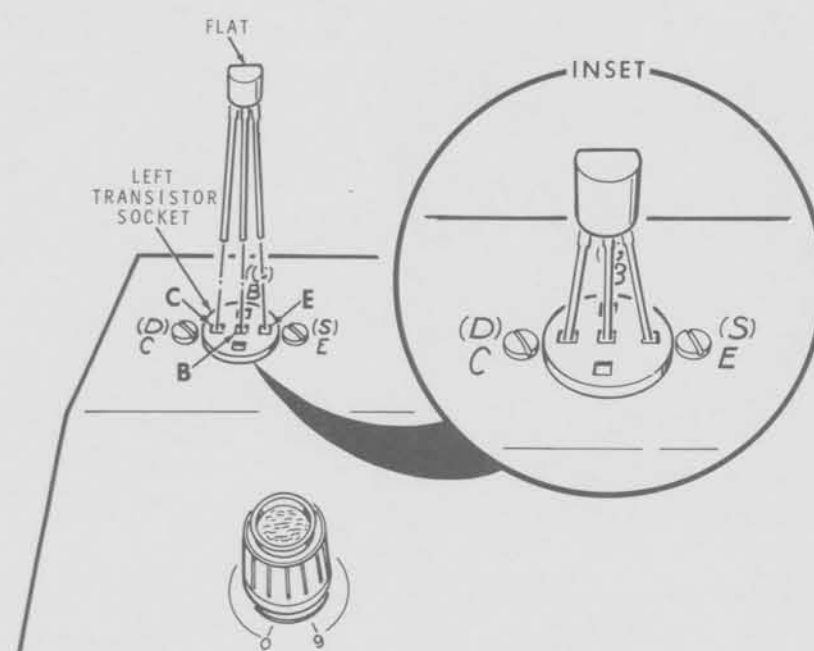

Figure 1-8
- ( ) Refer to Figure 1-8 (fold-out from Page 52) and install the extra MPSA20 transistor in the left transistor socket as shown. Be sure the flat of the transistor is toward the rear of the cabinet.